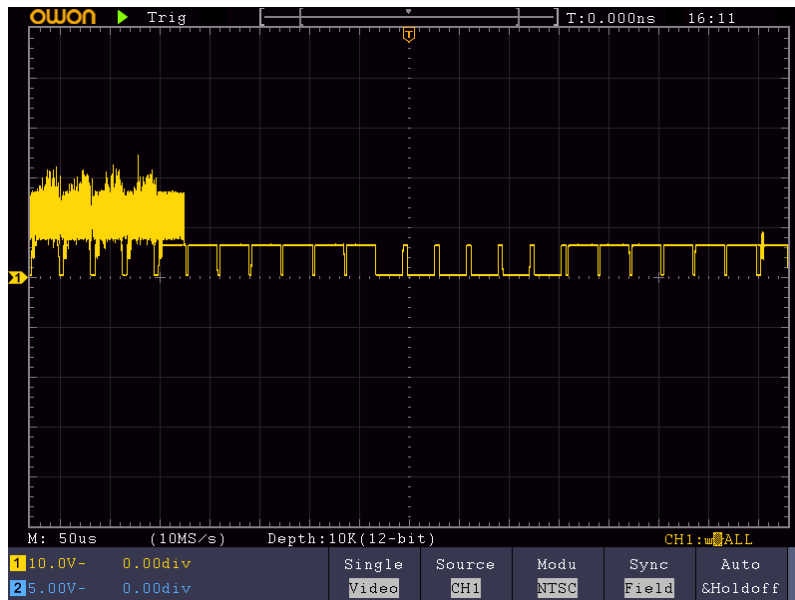

Figure 6-7 Waveform Captured from Video Field Trigger
- (1) Push the **Trigger Menu** button to display the trigger menu.
- (2) Select the first menu item in the bottom menu. Select **Single** in the right menu.
- (3) In the left menu, select **Video** as the mode.
- (4) Select **Source** in the bottom menu. Select **CH1** in the right menu.
- (5) Select **Modu** in the bottom menu. Select **NTSC** in the right menu.
- (6) Select **Sync** in the bottom menu. Select **Field** in the right menu.
- (7) Turn the **Vertical Scale**, **Vertical Position** and **Horizontal Scale** knobs to obtain a proper waveform display (see *Figure 6-7*).